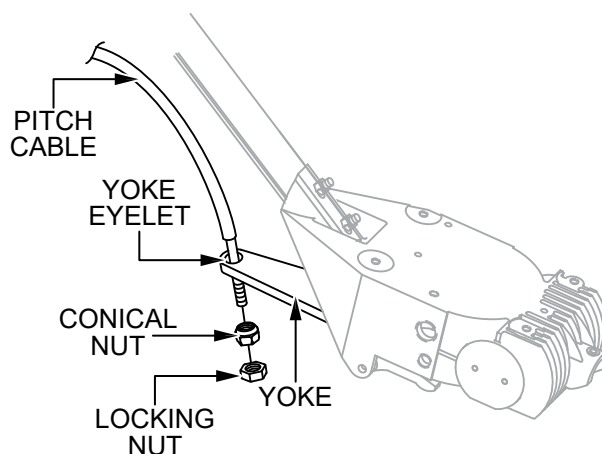

Figure 12. Cable to Yoke Attachment
3. Remove any nuts from the pitch cable end. Insert the cable through the yoke eyelet (Figure 12).
4. Thread the conical nut (Figure 12) up to the eyelet. Tighten the conical nut by hand to remove all of the slack from the cable.
5. Thread the locking nut (Figure 12) up to the conical nut. Use a wrench to tighten the conical nut against the yoke boss. This will lock the cable in place.
6. Use a wrench to tighten the locking nut (Figure 12) against the yoke boss.